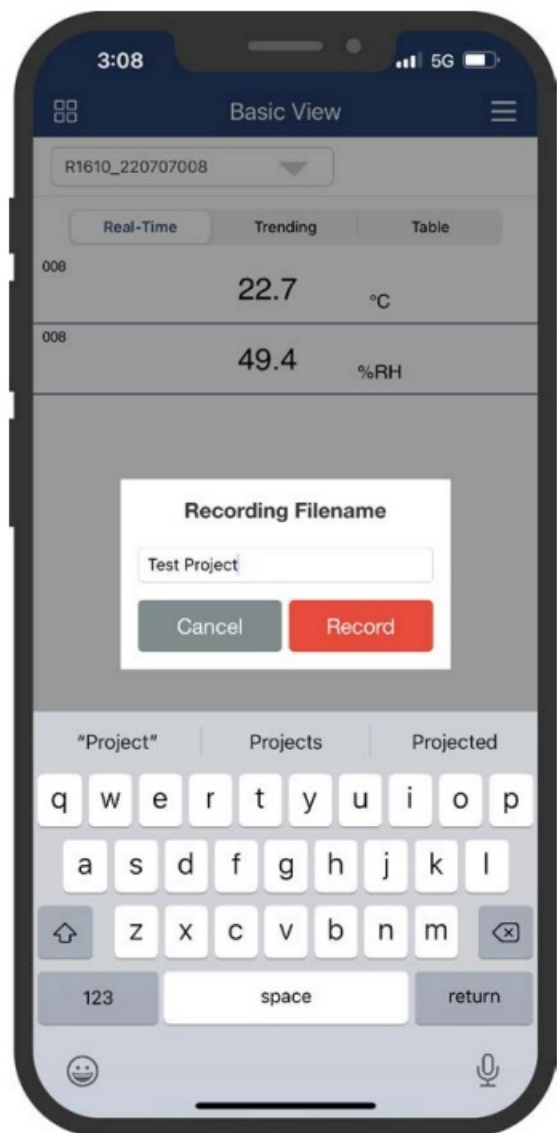

Figure 16
3. Enter a recording filename. (Figure 16)